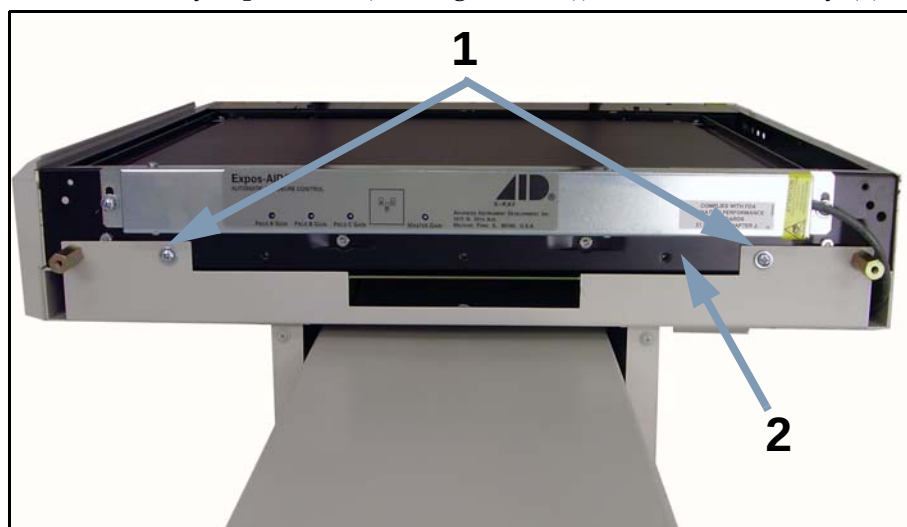

Figure 5-14. Bucky Top Screws
- 20** Unscrew bucky top screws (1 in Figure 5-14)) and remove bucky (2).